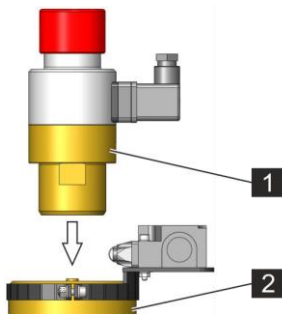

Fig. 98: Mounting the electrical release device
4. ➤ Screw the electric release device (Fig. 98/1) onto the valve (Fig. 98/2) from above ↗ *"Mounting on extinguishing agent cylinders" on page 105.*